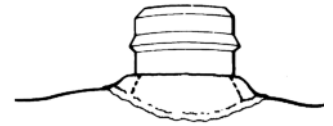

Fig. 13
4. After the boil-out, check that the black fabrication males, or ERA Overdenture Metal Jackets, are properly seated on the processing jigs. Block out the remaining exposed surface of each jig, plus a bit of the surrounding model surface, so the processed acrylic will not touch them (Fig. 13). This makes a small space (0.5mm minimum thickness) between the abutment and the denture base, which allows the resilient functioning of the ERA attachment.